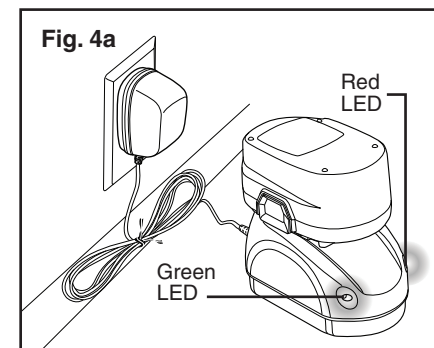

Fig. 4a
- When a battery pack is put into the charging stand/transformer, the red LED will light, indicating that the battery pack is charging properly (see Fig. 4a).